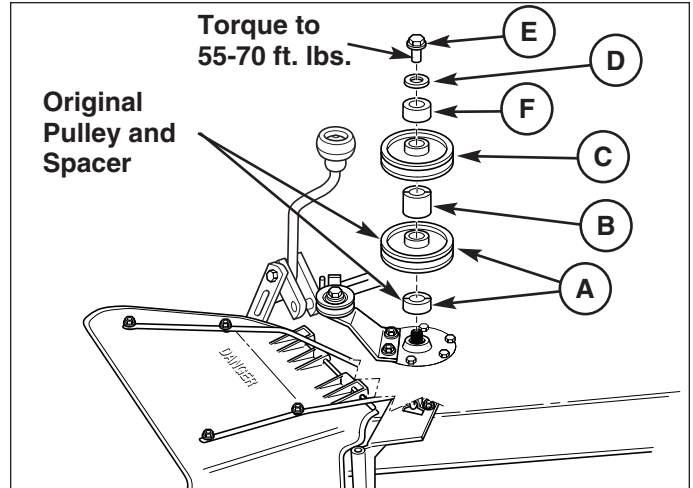

Figure 10. Install Turbo Drive Pulley
1. See Figure 10. Remove the arbor drive belt from the right side arbor pulley.
2. Remove and discard the flange nut and spring washers securing the arbor pulley and spacer (A). Retain the pulley and spacer (A).
3. Install the new spacers (B&F), turbo drive pulley (C), spring washer (D), and sleeve nut (E). Be sure the notches in the pulleys and spacers are aligned. Install the spring washer concave side down. Torque the sleeve nut to 55-70 ft. lbs. (74-95 N.m).